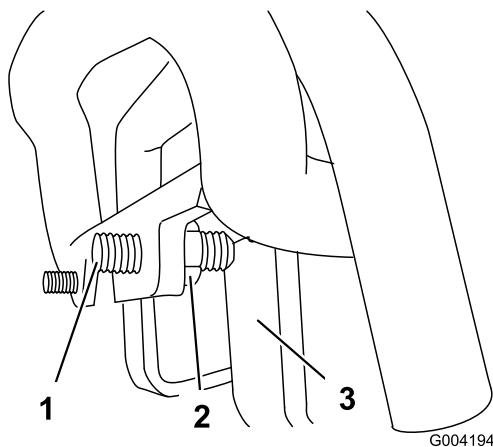

**Figure 57**
3. If the machine veers to the **left**, loosen the **right** jam nut and adjust the tracking set screw on the front of the traction control (Figure 57).
4. If the machine veers to the **right**, loosen the **left** jam nut and adjust the tracking set screw on the front of the traction control (Figure 57).